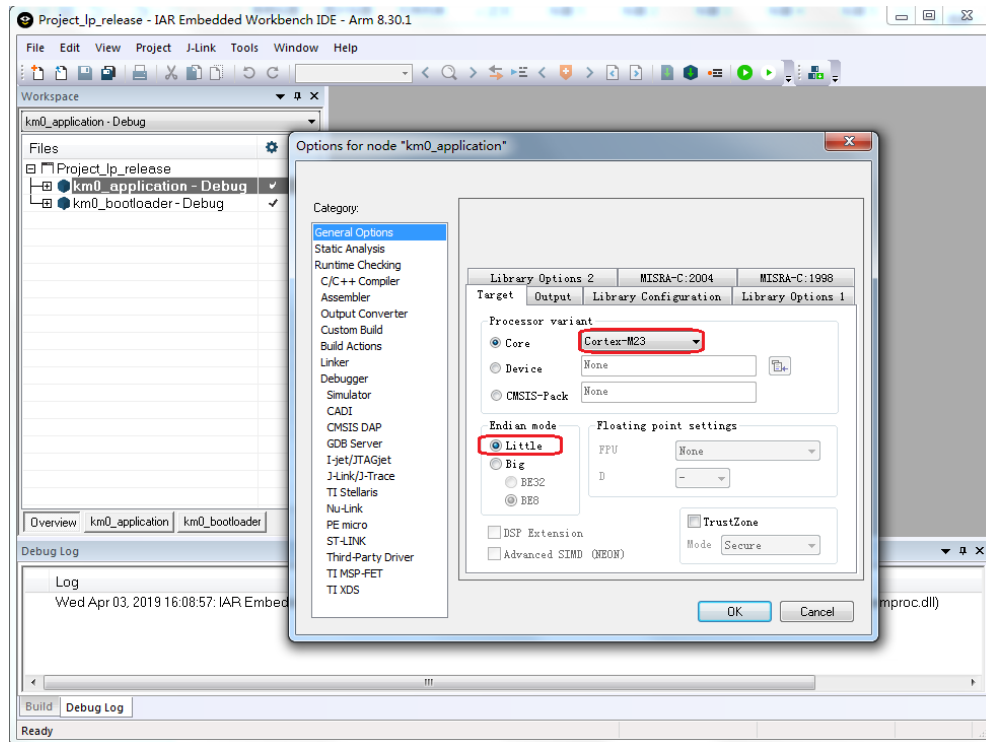

Fig 1-5 KM0 processor options
- (1) Open **project\realtek_amebaD_va0_example\EWARM-RELEASE\Project_lp_release.eww**.
- (2) Make sure km0_bootloader and km0_application are in Workspace. Click **Project > Options, General Options > Target > Processor Variant > Core**, verify the CPU configurations according to Fig 1-5.